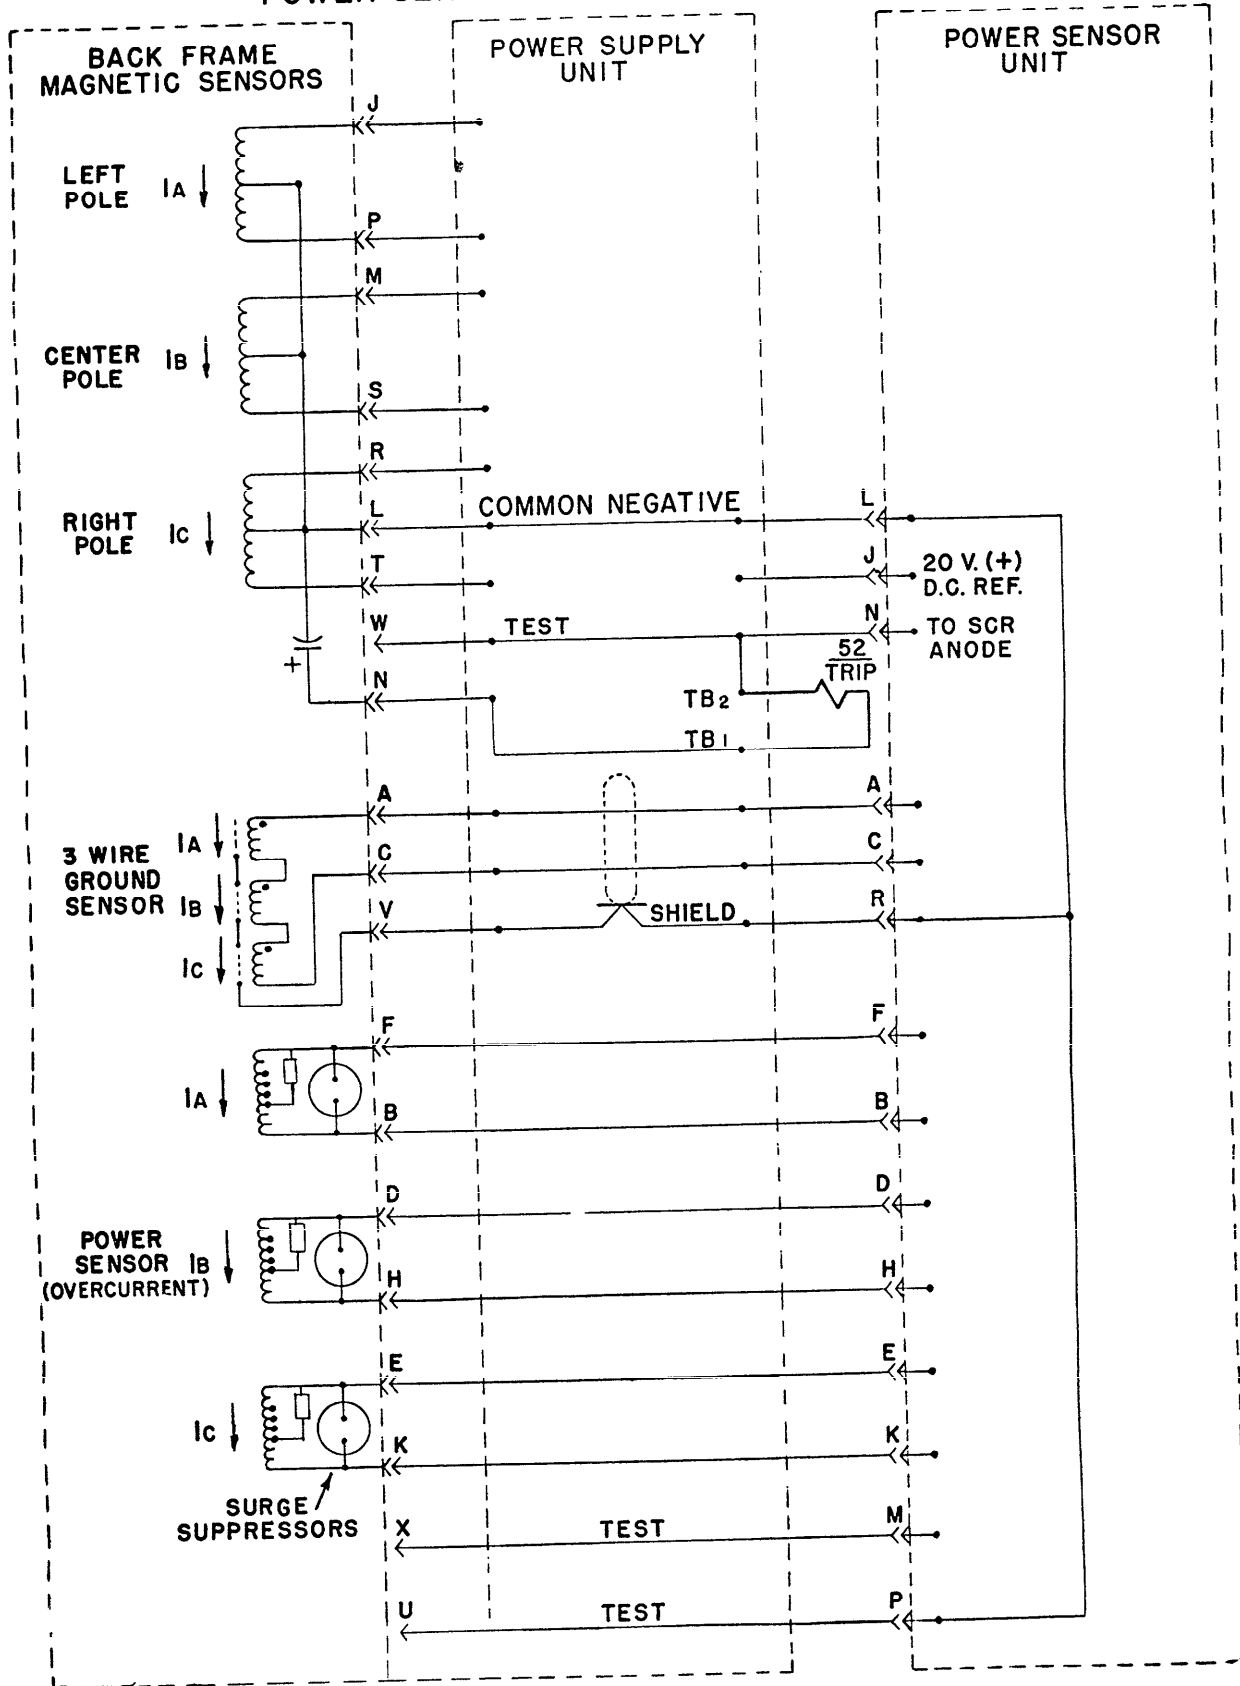
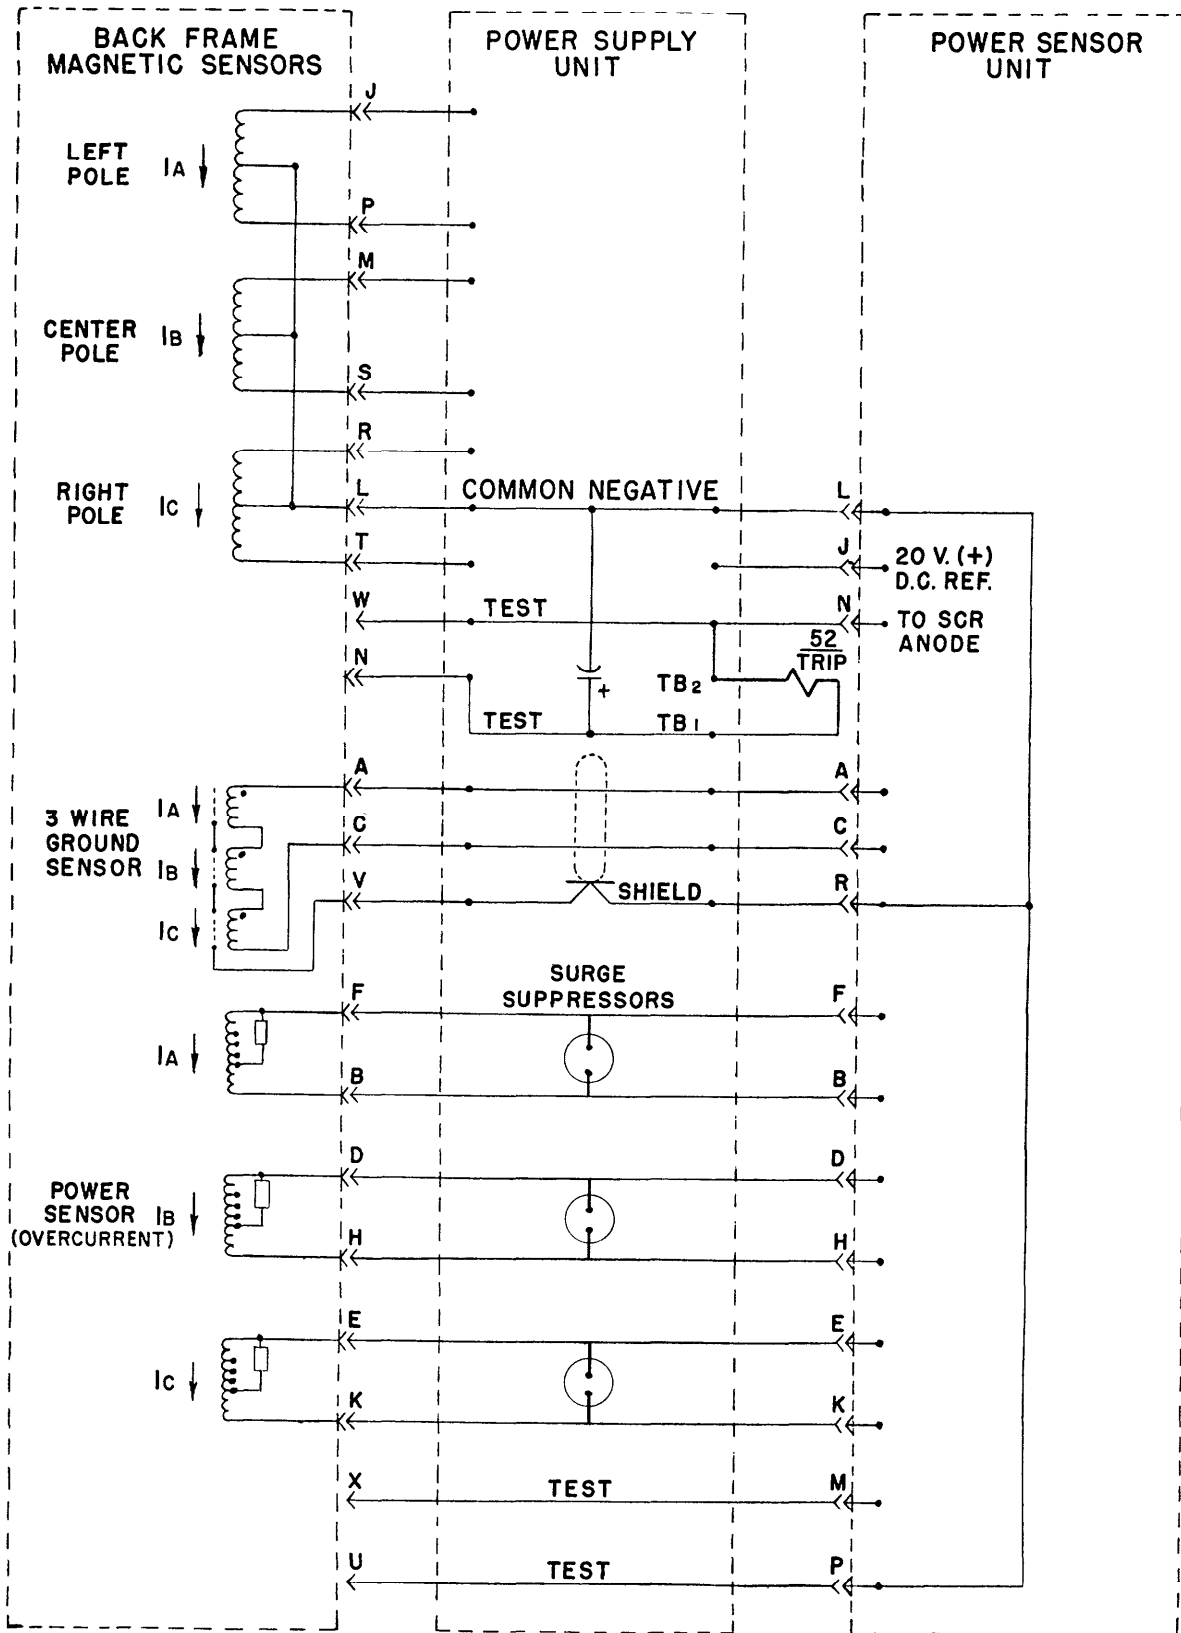

Figure 6. (133C9017-3) Power Sensor Cabling Diagram Drawing
Figure 7. (133C9018-3) Power Sensor Cabling Diagram Drawing
plug between the power supply section and the logic unit, shown on drawing 133C9018, Figure 7 page 11, so that the actual output of the CT's and the power supply can be displayed on an oscilloscope while the circuit breaker is in service.
2. Power Sensor Cabling Diagram Drawing #133C9017 (Figure 6) and #133C9018 (Figure 7)